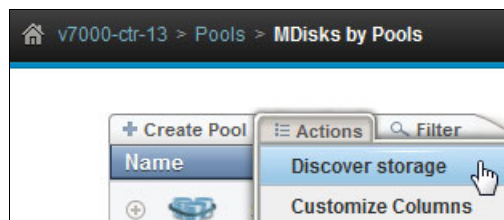

Figure 4-19 Detecting MDisks by using the Storwize V7000 GUI
5. Detect the volumes either by using the **svctask detectmdisk** command, or click **Pools** → **MDisks by Pools** → **Actions** → **Discover Storage** in the Storwize V7000 GUI, as shown in Figure 4-19.